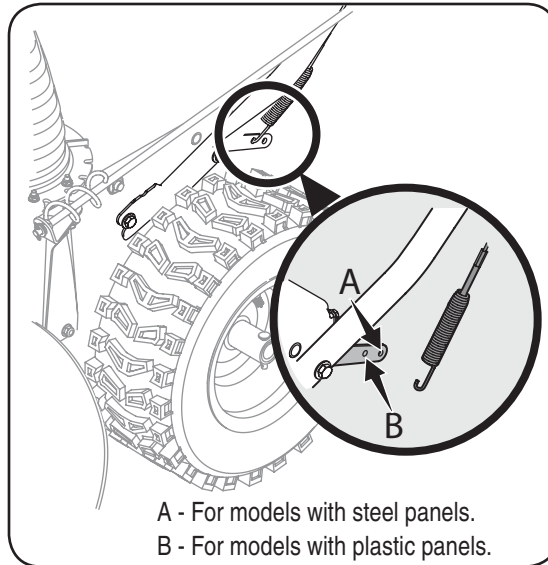

Figure 3-11
- When the auger control is released and in the disengaged “up” position (see Figure 3-10B), the cable should have very little slack, but should NOT be tight. See Figure 3-11.
- To readjust the control cable, unhook the spring (found on the end of the auger cable) from the auger actuator bracket. See Figure 3-11.